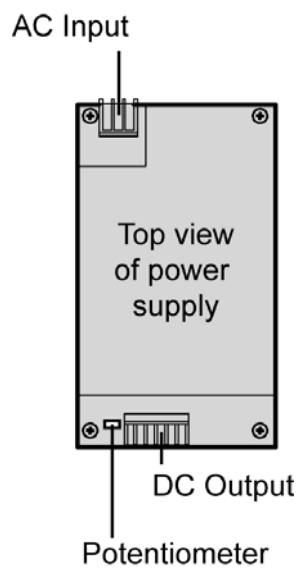

Figure 4.2 Potentiometer Location
2. Remove the AC and DC cables from the defective power supply. Refer to Figure 4.2.